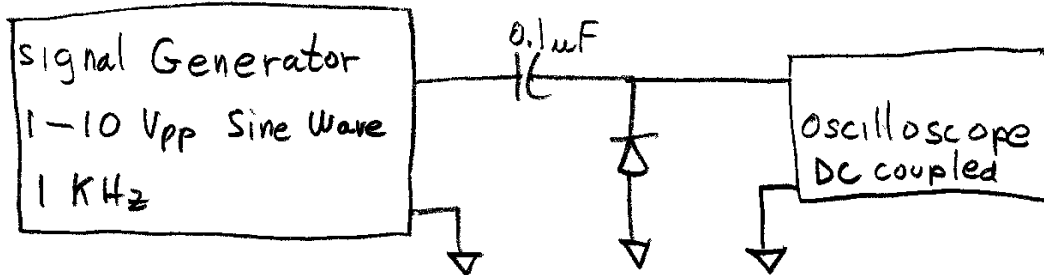

Figure 5: Clamping circuit
- 4.1 Build the circuit in Figure 5.